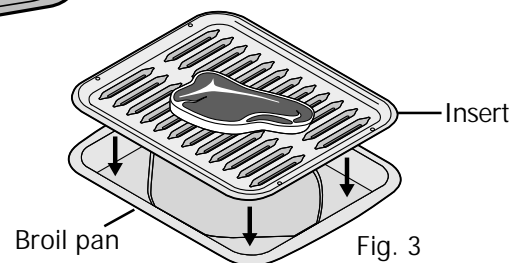

Fig. 3
- When broiling with a pan, be sure to use only Electrolux Home Products, Inc. approved broil pan & insert (Fig. 3).